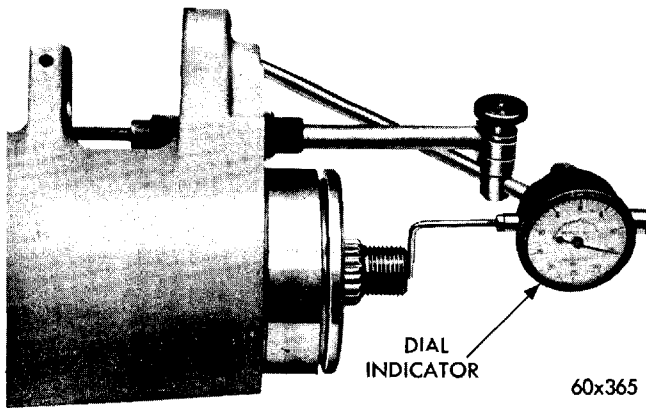

Fig. 30—Checking Drive Train End Play
(1) Attach a dial indicator to the extension housing with its plunger seated against end of output shaft (Fig. 30).
(2) Check the output shaft in and out to obtain end play reading. If necessary, tap the shaft inward with a mallet, and pry outward with a screw driver to obtain the reading.
(3) Record the indicator reading for reference when reassembling the transmission. End play specifications are .024 — .062 inch.